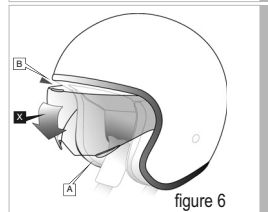

figure 6
Dismantling - see figures 6
Lower (see fig. 6) the visor in direction (X) until a fully open position is reached, using the special grip point (A).